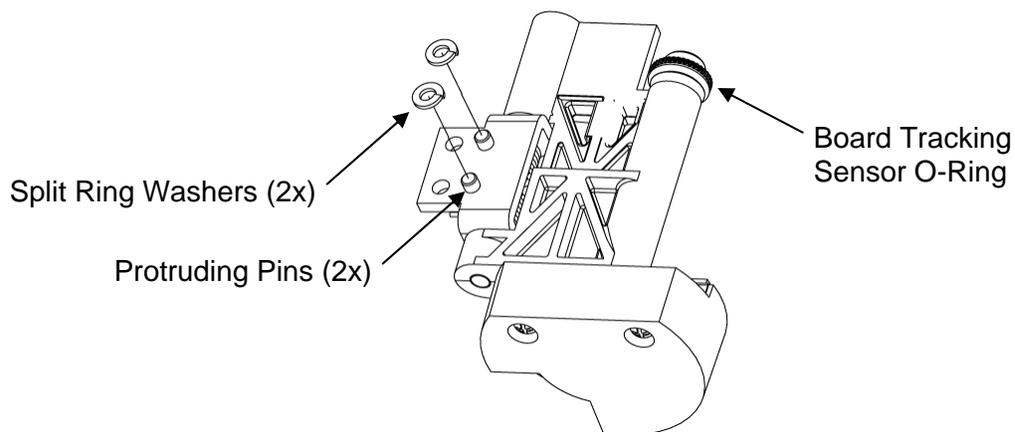

FIGURE 14: REPLACING THE O-RING AND ADDING SPACERS TO THE BOARD TRACKING SENSOR
24. **Replace the board tracking sensor o-ring (if needed).** If the o-ring is missing torn or hard you will want to replace it. Slip the existing rubber o-ring off the brass wheel and replace it with a new o-ring (See Figure 14). It is extremely important to have this new o-ring in place in order for the new belts to track correctly.